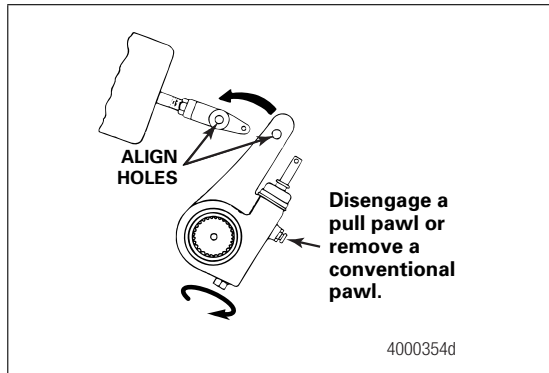

Figure 5.7
9. Disengage the pull pawl or remove a conventional pawl. Turn the manual adjusting nut to align the holes in the slack adjuster arm and clevis. Figure 5.7.